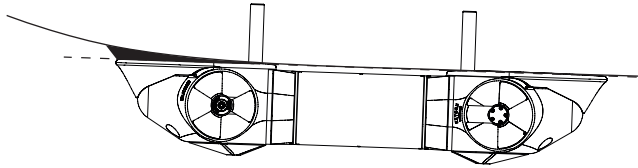

Fig. 32: **EX series** Dual mounting surface
- The mounting surface for the **EX series** Dual must be in-plane, if necessary a socket has to be developed accordingly (Fig. 32).